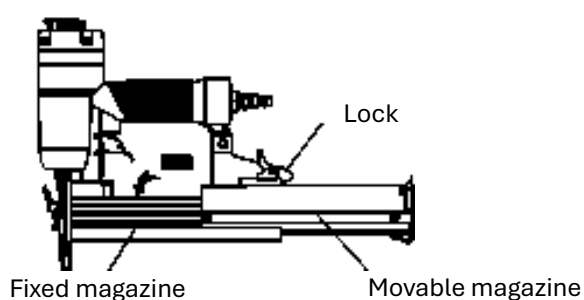

Fig. 2
1. Press down the lock to release the movable magazine and pull out the magazine fully, see fig. 2.